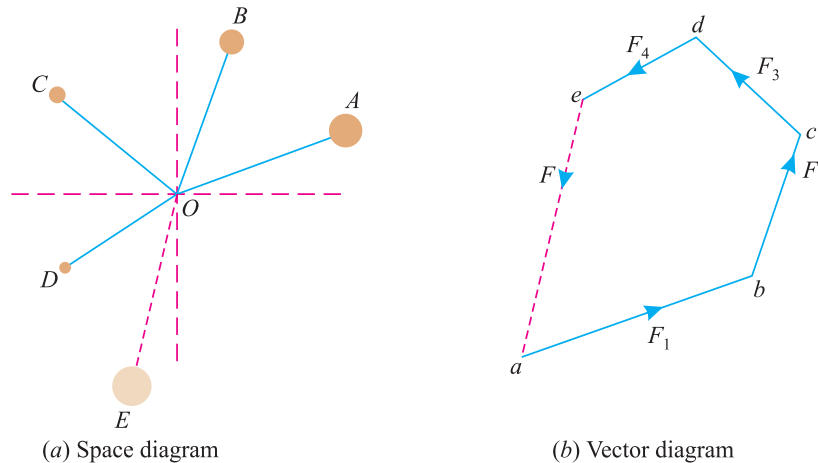

Fig. 29.4.
1. First of all, draw the space diagram with the given masses of the bodies and their positions as shown in Fig. 29.4 (a).